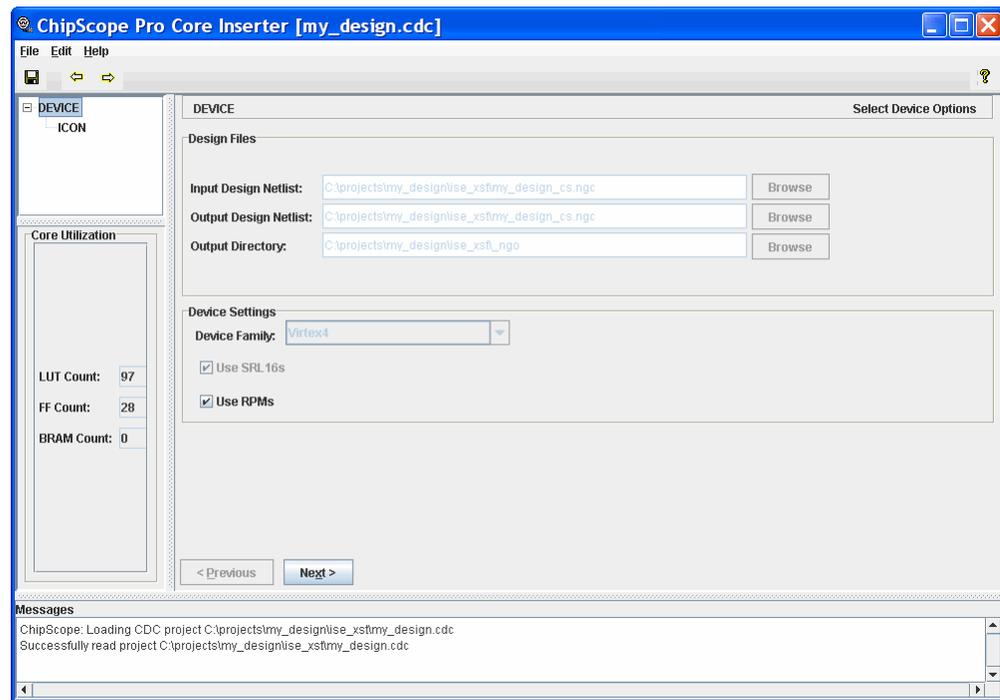

Figure 3-9: Core Inserter as Launched from Project Navigator
Note: When the Core Inserter is invoked from the Project Navigator tool, the Input Design Netlist, Output Design Netlist, Output Directory and Device Family fields are automatically filled in (Figure 3-9, page 78). In this case, these fields can only be changed by the Project Navigator tool and cannot be modified directly in the Core Inserter.
The Core Utilization panel on the left side of the Core Inserter tool main window (Figure 3-9, page 78) displays an estimated count of the look-up table (LUT), flip-flop (FF), and block RAM (BRAM) resources that are consumed by the ChipScope cores that are being inserted into the design netlist. The core resource utilization counts are updated based on the selection of various core parameters that affect the makeup of the cores being inserted into the design netlist.